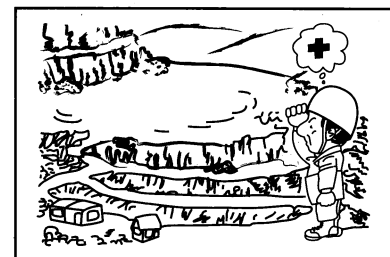

Figure1-39
- Investigate the surrounding environment of working place before starting operation. Keep guard against abnormal conditions that can result dangerous accidents. (Figure 1-39)